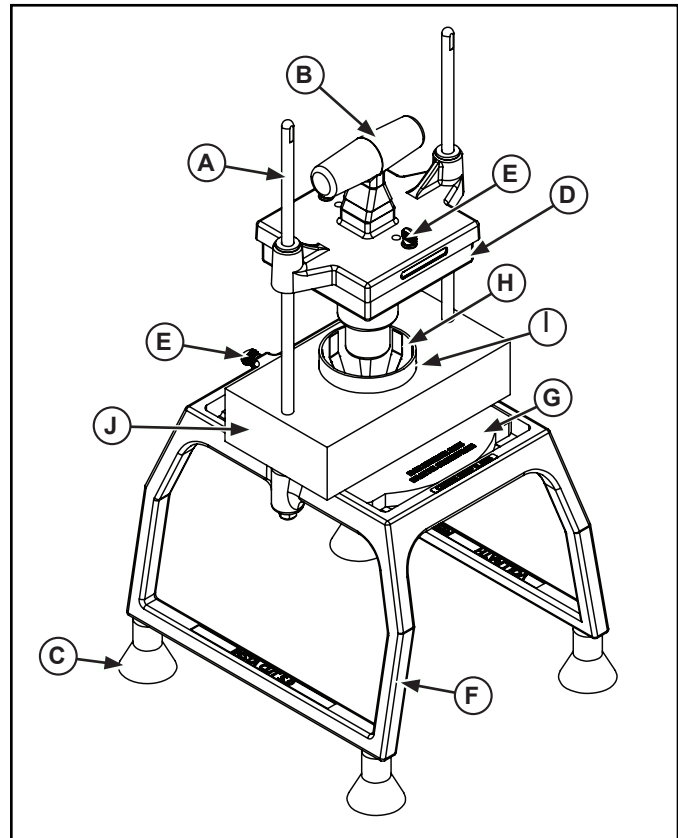

Figure 1. Features and Controls Cucumber Slicer.
Install the feet (C) securely to the base assembly (F). See Figure 1.
- Before each use, always check for proper blade alignment. Slowly set the pusher head block (D) onto the blade assembly (G). See Figure 1. They should slide together with no obstructions. If there are obstructions, verify they are a matching set.
- Lift the handle (B) and place the food on the food holder (H).
- Remove hand from the blade assembly (G) area and place that hand on the base assembly (F).
- Using a strong, quick, downward thrust, force the food product through the blade assembly (G).
- Remove the handle (B) and pusher block (D) from the guide rods (A). See Figure 1.
- Remove the base assembly (F) and blade assembly (G).
- Install new blade assembly (G) and secure with thumbscrew (E).